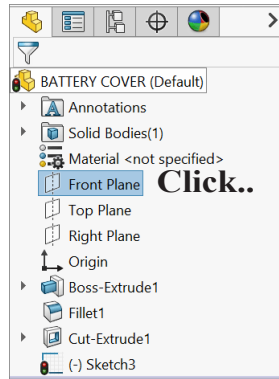

Fig. 20
Step 9. **Click Front Plane**  in the Feature Manager to select plane, **Fig. 20**.